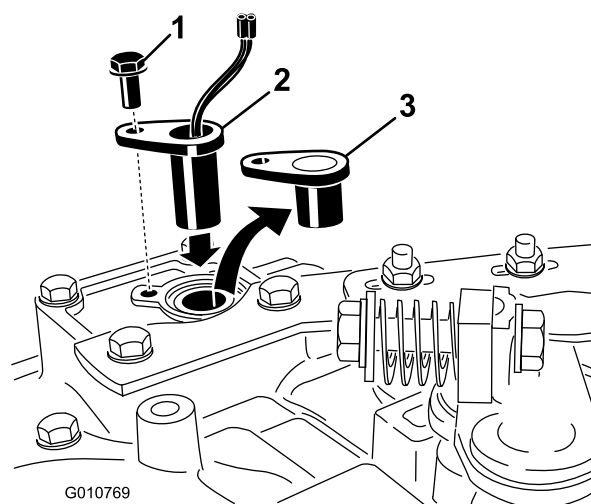

Figure 2
7. Remove the screw securing the plug to the top of the transmission (Figure 2). Remove and discard the plug but retain the screw for reuse.
8. Insert the sensor into the top of the transmission and secure it in place with the screw previously removed (Figure 2).